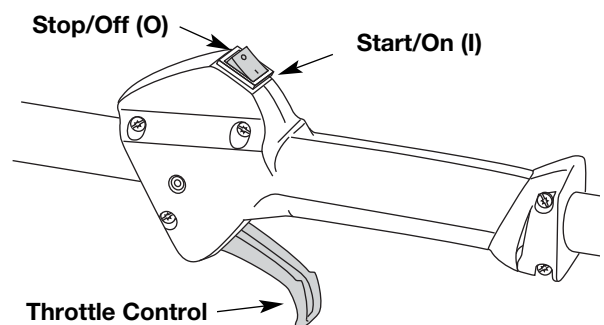

Fig. 9
2. Press and hold On/Off Stop Control in the OFF (O) position until engine comes to a complete stop (Fig. 9).